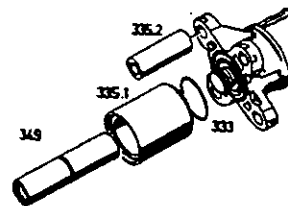

Fig.50
Fit O-ring (333). Slip on pipes (335.1 and 335.2) (Fig.50).